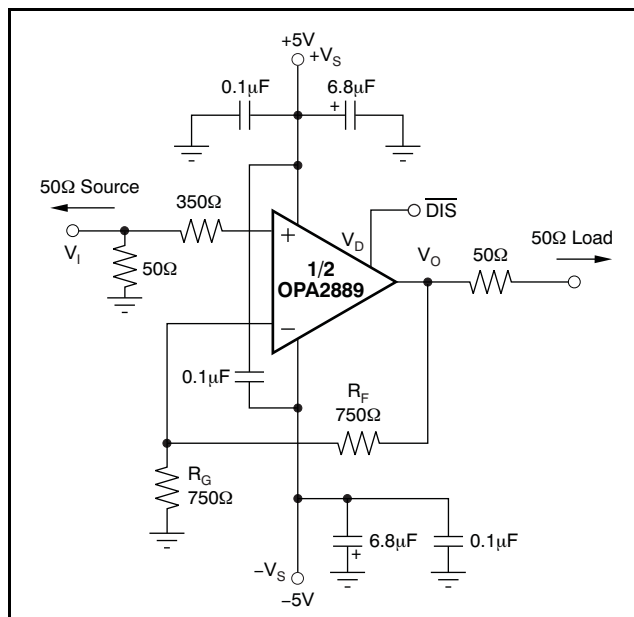
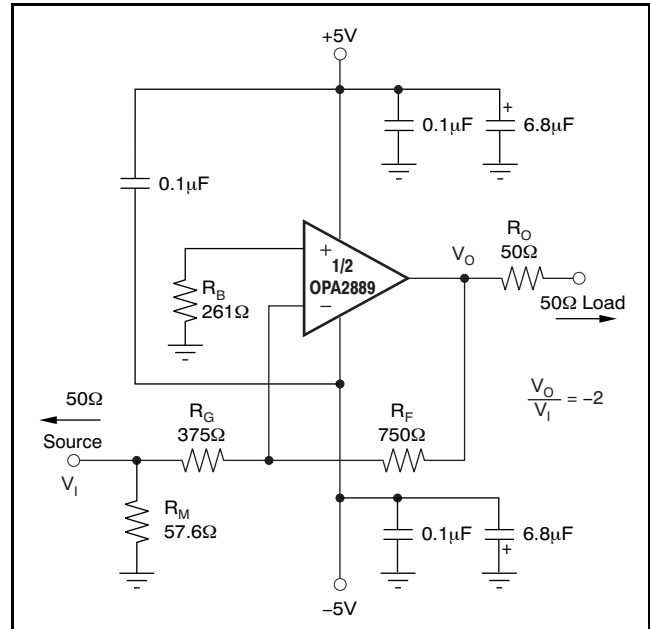

Figure 50. DC-Coupled, G = +2, Bipolar Supply, Specification and Test Circuit
Figure 60. Gain of $-2V/V$ Example Circuit
At $T_A = +25^\circ C$, $G = +2V/V$, $R_F = 750\Omega$, and $R_L = 100\Omega$, unless otherwise noted. See Figure 50.
Figure 50 shows the dc-coupled, gain of +2V/V, dual power-supply circuit configuration used as the basis of the ±5V Electrical Characteristics and ±5V Typical Characteristics. This illustration is for one channel; the other channel is connected similarly. For test purposes, the input impedance is set to 50Ω with a resistor to ground and the output impedance is set to 100Ω. Voltage swings reported in the Electrical Characteristics are taken directly at the input and output pins, while output powers (dBm) are at the matched 50Ω load. For the circuit of Figure 50, the total effective load will be 100Ω || 1.5kΩ. The disable control line (MSOP-10 package only) is typically left open for normal amplifier operation. Two optional components are included in Figure 50. An additional resistor (350Ω) is included in series with the noninverting input. Combined with the 25Ω dc source resistance looking back towards the signal generator, this resistor gives an input bias current cancelling resistance that matches the 375Ω source resistance seen at the inverting input (see the DC Accuracy and Offset Control section). In addition to the usual power-supply decoupling capacitors to ground, a 0.1μF capacitor is included between the two power-supply pins. In practical printed circuit board (PCB) layouts, this optional-added capacitor typically improves the 2nd-harmonic distortion performance by 3dB to 6dB.
A good rule of thumb is to target the parallel combination of R_F and R_G (see Figure 50) to be less than approximately 400Ω. The combined impedance $R_F \parallel R_G$ interacts with the inverting input capacitance, placing an additional pole in the feedback network and thus, a zero in the forward response. Assuming a 2pF total parasitic on the inverting node, holding $R_F \parallel R_G < 400\Omega$ keeps this pole above 160MHz. By itself, this constraint implies that the feedback resistor R_F can increase to several kΩ at high gains. This increase in resistor size is acceptable as long as the pole formed by R_F and any parasitic capacitance appearing in parallel is kept out of the frequency range of interest.
Voltage-feedback op amps exhibit decreasing closed-loop bandwidth as the signal gain increases. In theory, this relationship is described by the Gain Bandwidth Product (GBP) shown in the Electrical Characteristics. Ideally, dividing GBP by the noninverting signal gain (also called the Noise Gain, or NG) predicts the closed-loop bandwidth. In practice, this principle only holds true when the phase margin approaches 90°, as it does in high gain configurations. At low gains (increased feedback factors), most amplifiers exhibit a more complex response with lower phase margin. The OPA2889 is compensated to give a slightly peaked response in a noninverting gain of 2V/V (see Figure 50). This compensation results in a typical gain of +2V/V bandwidth of 60MHz, far exceeding that predicted by dividing the 75MHz GBP by 2. Increasing the gain causes the phase margin to approach 90° and the bandwidth to more closely approach the predicted value of (GBP/NG). At a gain of +10, the 8MHz bandwidth shown in the Electrical Characteristics agrees closely with that predicted using the simple formula and the typical GBP of 75MHz.
The frequency response in a gain of +2V/V may be modified to achieve exceptional flatness simply by increasing the noise gain to 2.5V/V. One way to modify the response without affecting the +2V/V signal gain, is to add a 750Ω resistor across the two inputs, as shown in the circuit of Figure 50. A similar technique may be used to reduce peaking in unity-gain (voltage follower) applications. For example, by using a 750Ω feedback resistor along
The OPA2889 is a general-purpose, wideband, voltage-feedback op amp; therefore, all of the familiar op amp application circuits are available to the designer. Inverting operation is one of the more common requirements and offers several performance benefits. See Figure 60 for a typical inverting configuration where the I/O impedances and signal gain from Figure 50 are retained in an inverting circuit configuration.
In the inverting configuration, three key design considerations must be noted. The first is that the gain resistor (R_G) becomes part of the signal channel input impedance. If input impedance matching is desired (which is beneficial whenever the signal is coupled through a cable, twisted-pair, long PCB trace, or other transmission line conductor), R_G may be set equal to the required termination value and R_F adjusted to give the desired gain. This consideration is the simplest approach and results in optimum bandwidth and noise performance. However, at low inverting gains, the resultant feedback resistor value can present a significant load to the amplifier output. For an inverting gain of $-2V/V$, setting R_G to 50Ω for input matching eliminates the need for R_M but requires a 100Ω feedback resistor. This approach has the interesting advantage that the noise gain becomes equal to $2V/V$ for a 50Ω source impedance—the same as the noninverting circuits considered in Figure 60. The amplifier output, however, now sees the 100Ω feedback resistor in parallel with the external load. In general, the feedback resistor should be limited to the 200Ω to 1.5kΩ range. In this case, it is preferable to increase both the R_F and R_G values (see Figure 60), and then achieve the input matching impedance with a third resistor (R_M) to ground. The total input impedance becomes the parallel combination of R_G and R_M .
The second major consideration, touched on in the previous paragraph, is that the signal source impedance becomes part of the noise gain equation and influences the bandwidth. For the example in Figure 60, the R_M value combined in parallel with the external 50Ω source impedance yields an effective driving impedance of $50Ω \parallel 57.6Ω = 26.7Ω$. This impedance is added in series with R_G for calculating the noise gain (NG). The resulting NG is $2.86V/V$ for Figure 60, as opposed to only $2V/V$ if R_M could be eliminated as discussed above. Therefore, the bandwidth is slightly lower for the gain of $-2V/V$ circuit of Figure 60 than for the gain of $+2V/V$ circuit of Figure 50.
The third important consideration in inverting amplifier design is setting the bias current cancellation resistor on the noninverting input (R_B). If this resistor is set equal to the total dc resistance looking out of the inverting node, the output dc error, as a result of the input bias currents, is reduced to $(\text{Input Offset Current}) \times R_F$. If the 50Ω source impedance is dc-coupled in Figure 60, the total resistance to ground on the inverting input is 402Ω.
The OPA2889 provides good distortion performance into a 200Ω load on $\pm 5V$ supplies. Relative to alternative solutions, it provides exceptional performance into lighter loads and/or operating on a single +5V supply. Generally, until the fundamental signal reaches very high frequency or power levels, the 2nd-harmonic dominates the distortion with a negligible 3rd-harmonic component. Focusing then on the 2nd-harmonic, increasing the load impedance improves distortion directly. Remember that the total load includes the feedback network; in the noninverting configuration (see Figure 50), this total is the sum of $R_F + R_G$, while in the inverting configuration it is just R_F . Also, providing an additional supply-decoupling capacitor ($0.1\mu F$) between the supply pins (for bipolar operation) improves the 2nd-order distortion slightly (3dB to 6dB). Operating differentially also lowers 2nd-harmonic distortion terms (see the plot on the front page).
Evaluating these two equations for the OPA2889 circuit and component values (see Figure 50) gives a total output spot noise voltage of 18.2nV/√Hz and a total equivalent input spot noise voltage of 9.1nV/√Hz. This total includes the noise added by the bias current cancellation resistor (350Ω) on the noninverting input. This total input-referred spot noise voltage is slightly higher than the 8nV/√Hz specification for the op amp voltage noise alone. This result is the case as long as the impedances appearing at each op amp input are limited to the
previously recommend maximum value of 400Ω. Keeping both ($R_F \parallel R_G$) and the noninverting input source impedance less than 400Ω satisfies both noise and frequency response flatness considerations. Because the resistor-induced noise is relatively negligible, additional capacitive decoupling across the bias current cancellation resistor (R_B) for the inverting op amp configuration of Figure 60 is not required.
The balanced input stage of a wideband voltage-feedback op amp allows good output dc accuracy in a wide variety of applications. The power-supply current trim for the OPA2889 gives even tighter control than comparable amplifiers. Although the high-speed input stage does require relatively low $\pm 0.75\mu A$ input bias current, the close matching between them may be used to reduce the output dc error caused by this current. The total output offset voltage may be reduced by matching the dc source resistances appearing at the two inputs. This matching reduces the output dc error resulting from the input bias currents to the offset current times the feedback resistor. Evaluating the configuration of Figure 50, and using worst-case +25°C input offset voltage and current specifications, gives a worst-case output offset voltage equal to: